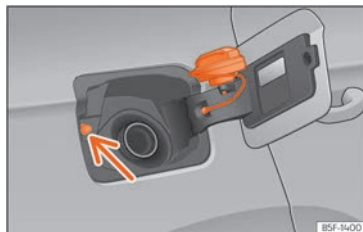

Fig. 236 Fuel tank flap with tank cap attached.
Avoid touching the fuel tank flap lock button » » **Fig. 236** (arrow). The system will interpret that you have finished and cannot continue refuelling. Press the  button on the driver's door again to continue.
- Place it in the space on the hinge of the open flap » » **Fig. 236**.